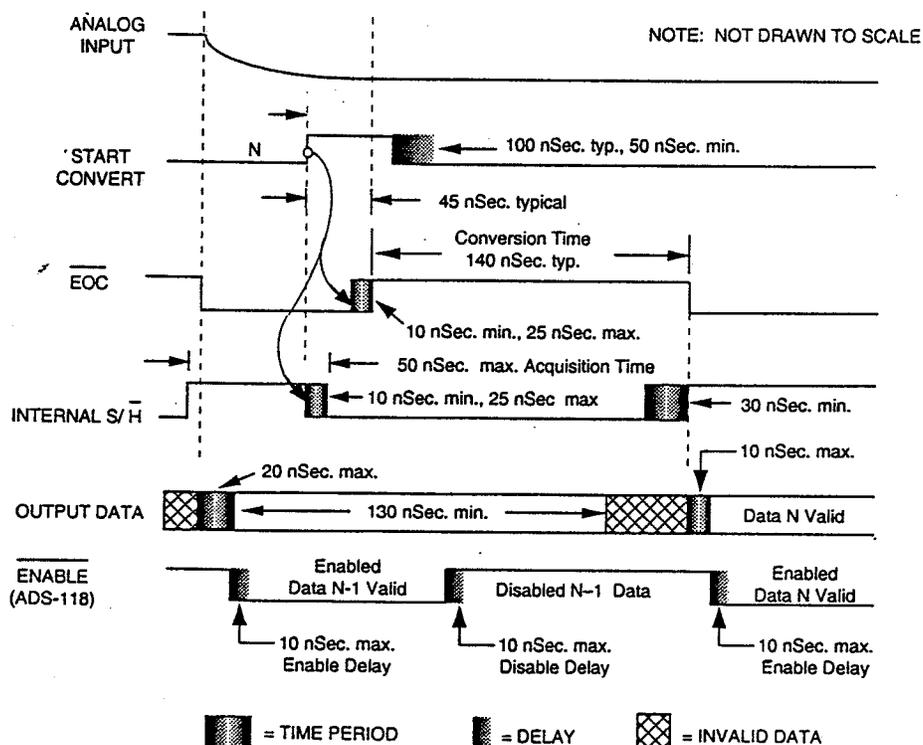

Figure 2. ADS-118 Timing Diagram
- Figure 2 shows the relationship between the various input signals. The timing shown applies over the operating temperature range and over the operating power supply range. These times are guaranteed by design.